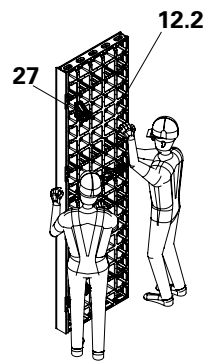

Fig. C1.03
1. Position the DUO 135 chamfer strips (29) on the first panel unit, do not nail the DUO 135 chamfer strips (29) down.
2. Mount two DUO brace connectors (27).
3. Two persons are required to transport the panel unit to the place of operation. (Fig. C1.03)